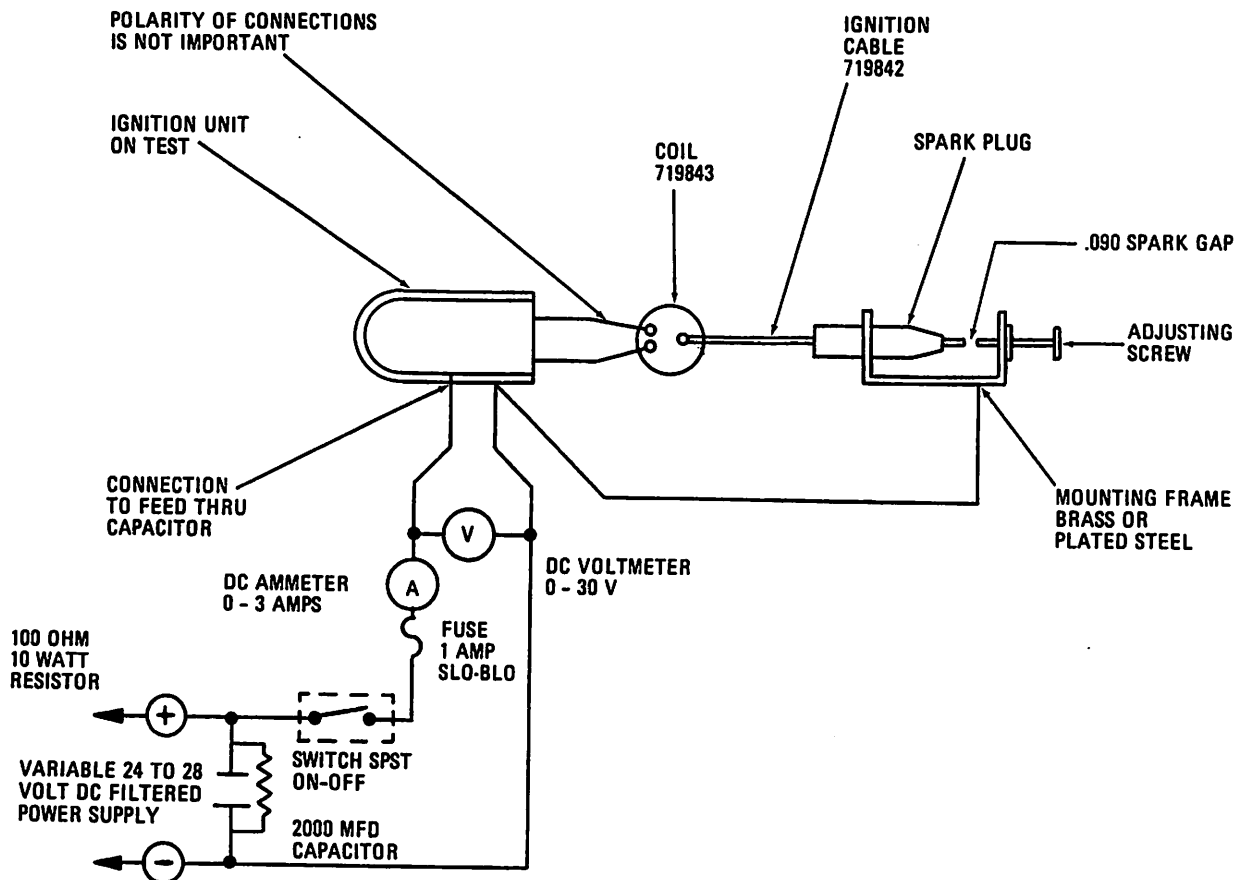

Figure 7-3. Schematic Diagram of Ignition Unit Test Setup
a. Connect the ignition unit into a test setup as shown in figure 7-3. Adjust spark gap to .090 inch. Make sure the ground lead is securely connected to the ignition unit housing and the power lead is connected to the feed-through capacitor.